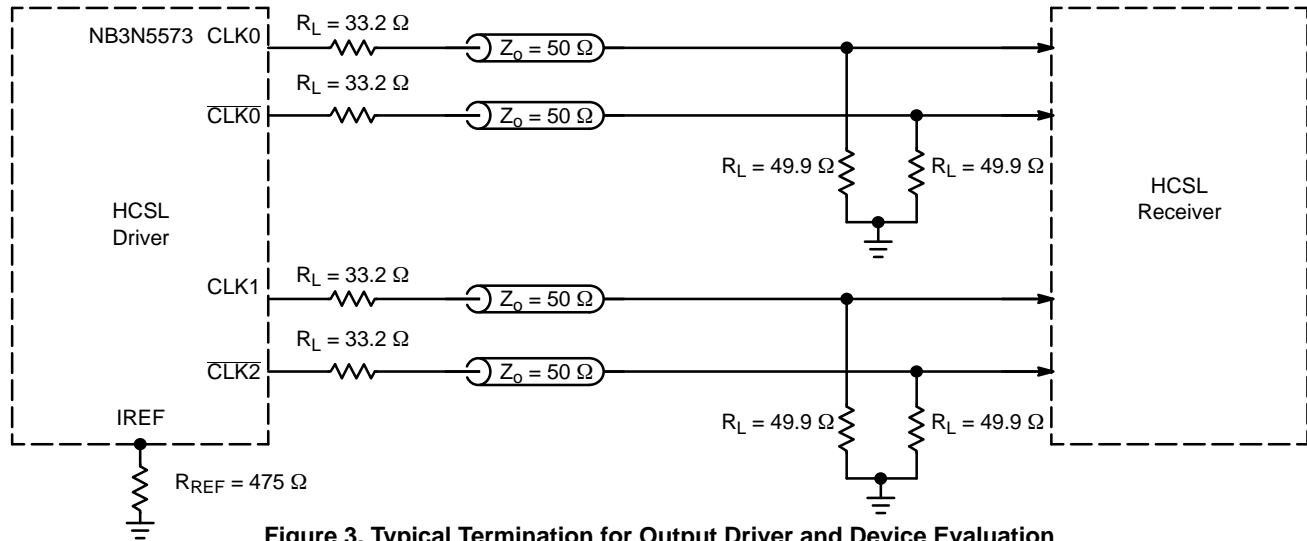

Figure 3. Typical Termination for Output Driver and Device Evaluation
4. Measurement taken with outputs terminated with RS = 33.2 Ω, RL = 49.9 Ω, with test load capacitance of 2 pF and current biasing resistor set at 475 Ω. See Figure 3.
5. Measurement taken from differential output on single-ended channel terminated with  $R_S = 33.2\ \Omega$ ,  $R_L = 49.9\ \Omega$ , with test load capacitance of 2 pF and current biasing resistor set at 475  $\Omega$ . See Figure 3.